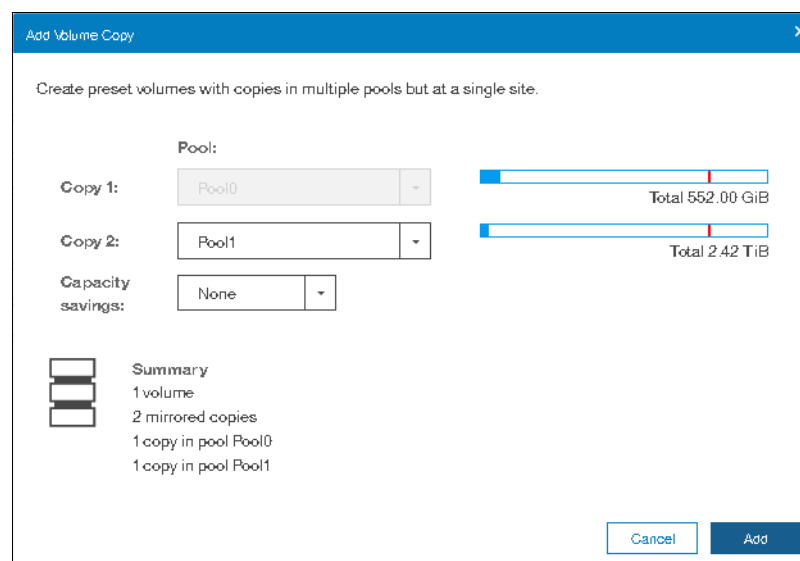

Figure 6-59 Add Volume Copy
2. Select the desired pool into which a new copy will be created as shown in Figure 6-59